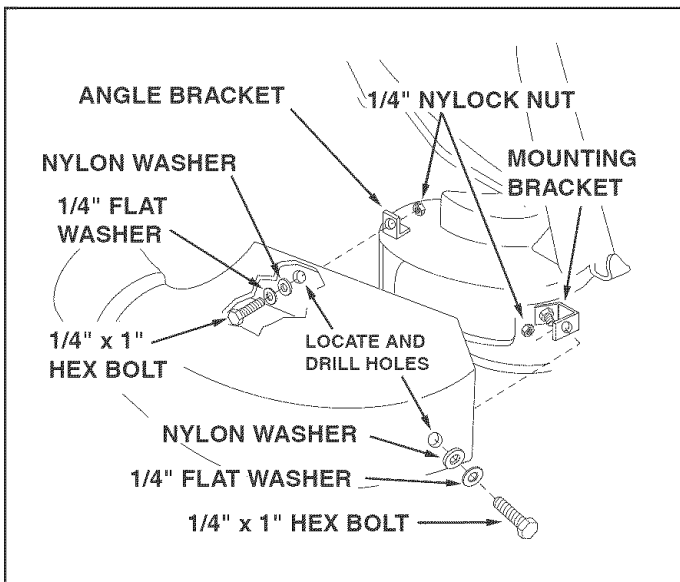

FIGURE 28
- Drill two 5/16" diameter holes in the deck adapter that will align with the holes in the angle bracket and the mounting bracket. Assemble the deck adapter to both brackets using two 1/4" x 1" hex bolts, 1/4" flat washers, nylon washers and 1/4" nylock nuts. See figure 28.